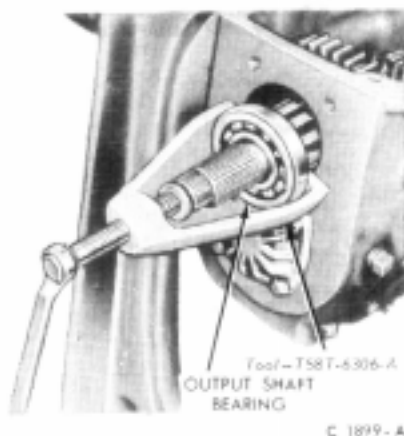

FIG. 8 Removing Output Shaft Bearing
7. Remove the output shaft bearing (Fig. 8).